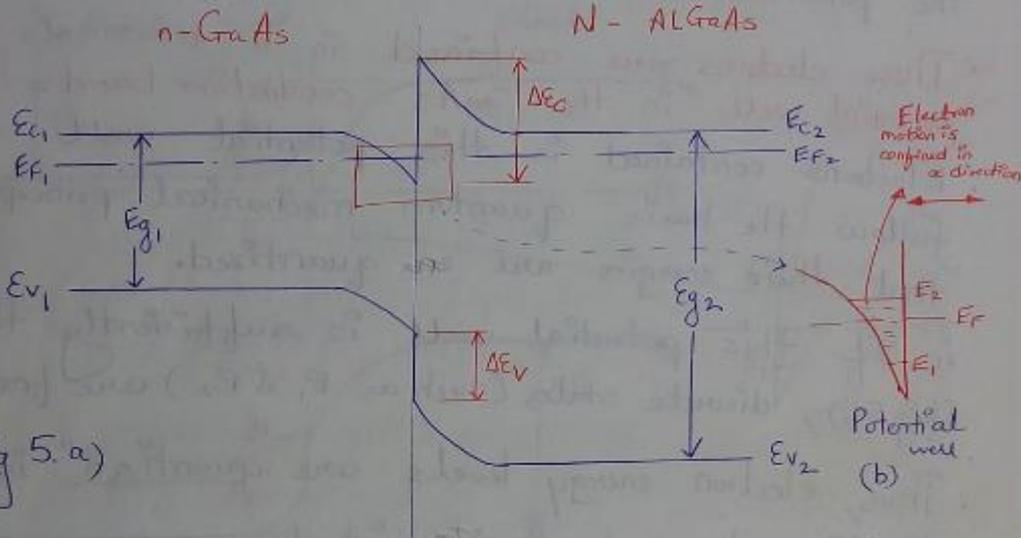

fig 5.a)
a) EBD of an nN GaAs-AlGaAs heterojunction in thermal equilibrium is shown in fig 5.a)